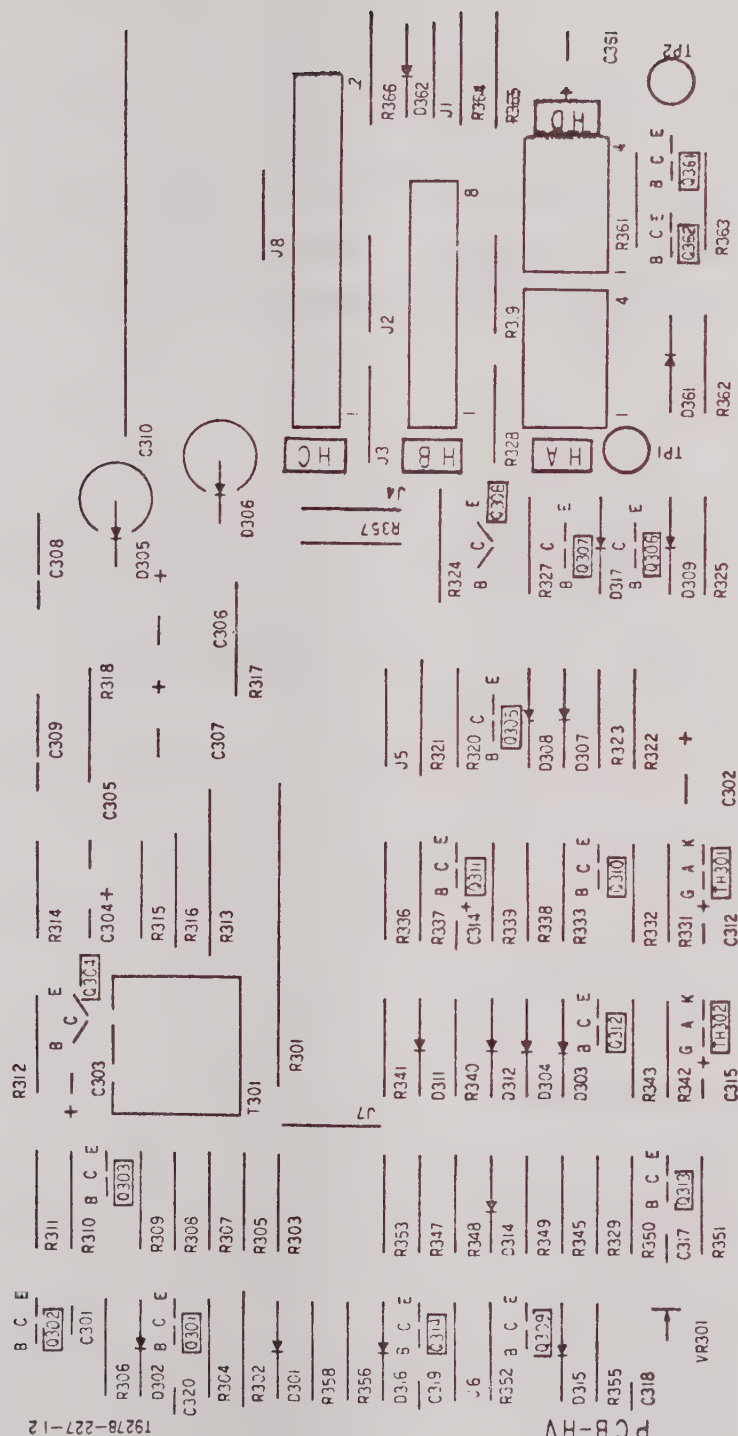

FIGURE 2-13. High Voltage PCB
L. Figure 2-13	High Voltage PCB